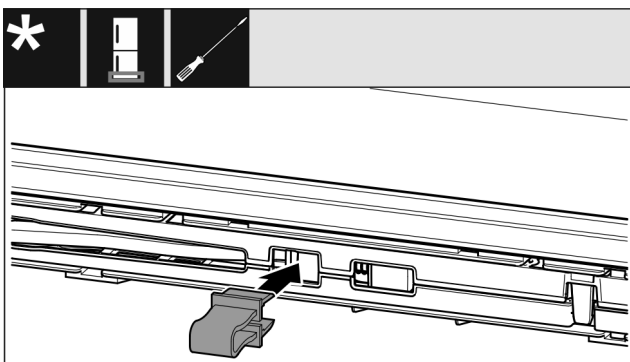

Fig. 15
- Snap the locking device into the opening. (see *Fig. 15*)